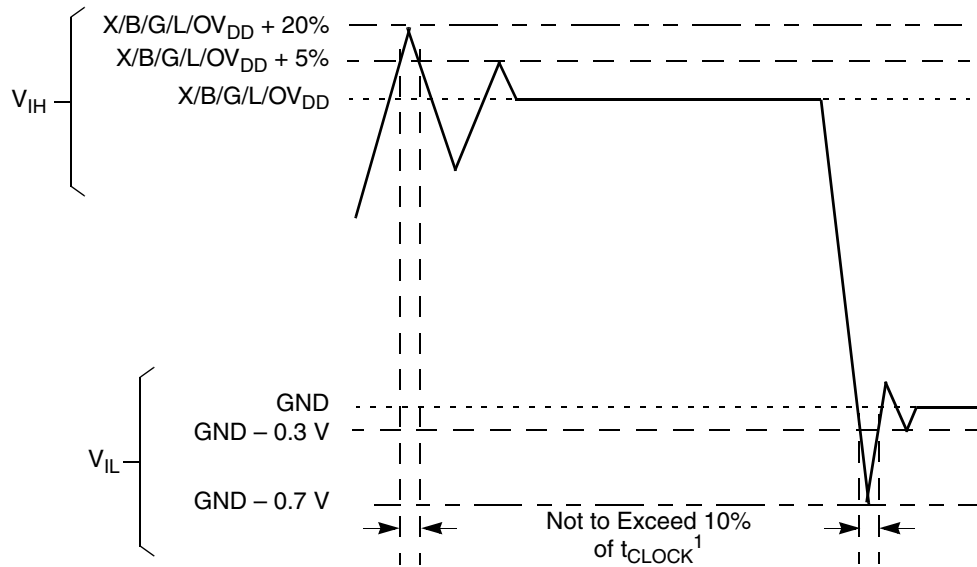

Figure 2. Overshoot/Undershoot voltage for $BV_{IN}/MV_{IN}/LV_{IN}/OV_{IN}/XV_{IN}$
6. (X,B,G,L,O)VIN and MV_{REF} may overshoot/undershoot to a voltage and for a maximum duration as shown in Figure 2.
- (L,X,B,O,G) V_{IN} may overshoot (for V_{IH}) or undershoot (for V_{IL}) to the voltages and maximum duration shown in Figure 2.